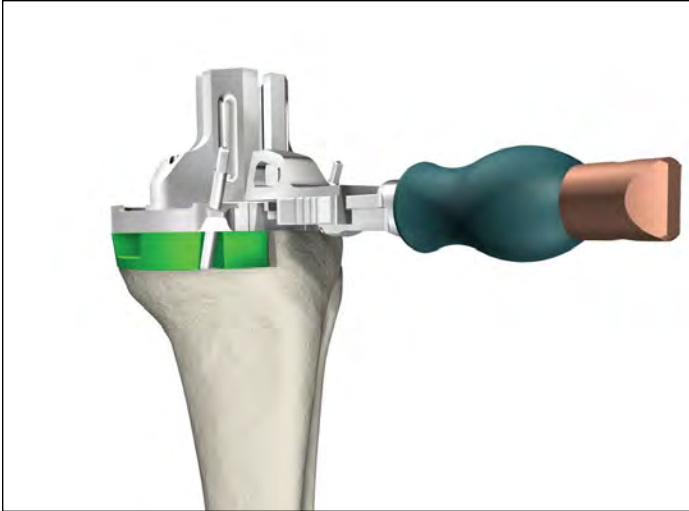

Figure 12
- Assemble the appropriate size Keel Punch Guide to the Universal Tibial Template by inserting, at a slight angle to the top of the Universal Tibial Template, the two locating slots toward the posterior portion of the Universal Tibial Template. Allow the Keel Punch Guide to sit flat on the Universal Tibial Template and push forward on the handle to lock the Keel Punch Guide to the Universal Tibial Template (**Figure 12**).